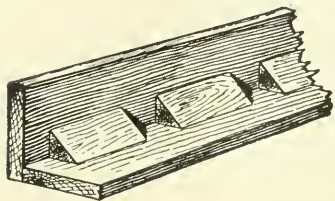

Fig. 200
73. Corner-blocks are small pieces of pine, or other wood which holds glue well, rubbed with hot glue into interior angles of cabinet-work, to strengthen and stiffen the work (Fig. 200). The grain of the blocks should run in the same direction as that of the adjoining surfaces, if possible. Have the blocks warm, apply hot glue plentifully, rub the blocks back and forth several times, and leave to dry.